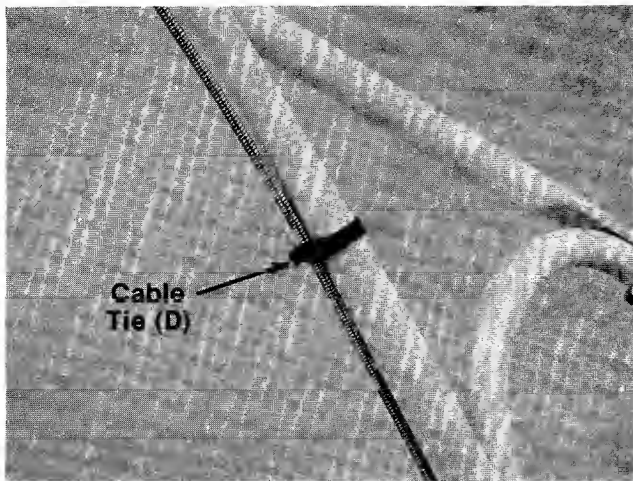

FIGURE 7. Model 020 Only
8. **Model 020 Only**—Secure throttle control wire to upper and lower handles with two cable ties (D) provided in hardware pack. See figure 7.
9. Slip hand grips (H) on the upper end of each handle. They will slip on more easily if you first soak them in warm, soapy water.